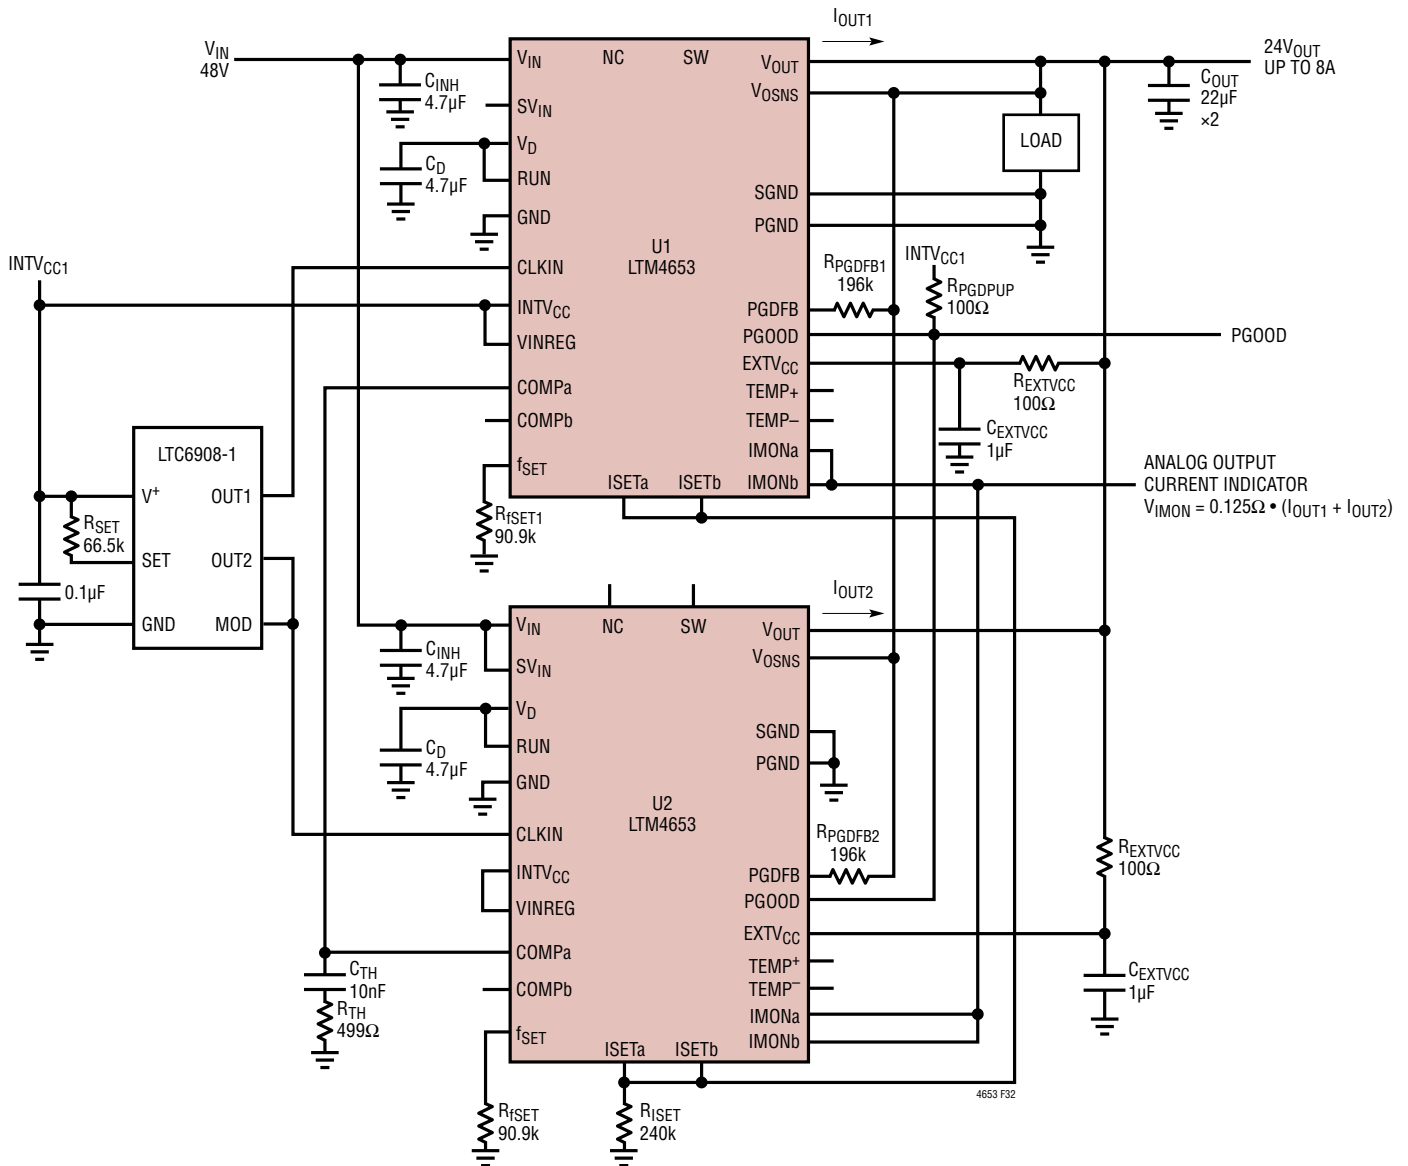

Figure 32. 24V Output at Up to 8A from 48V Input, 2-Phase Paralled with Analog Output Current Indicator
- For parallel module applications, connect the  $V_{OUT}$ ,  $V_{OSNS}$ , RUN, ISETa, COMPa and PGOOD pins together as shown in Figure 32.